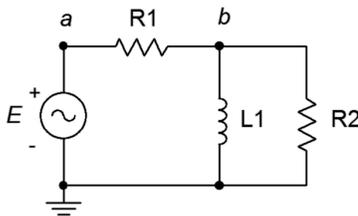

Figure 4.22
38. Given the circuit of Figure 4.22, determine a value for L such that  $v_b$  is 1 volt. The source is a 6 volt peak sine at 50 kHz,  $R_1 = 510 \Omega$  and  $R_2 = 220 \Omega$ .